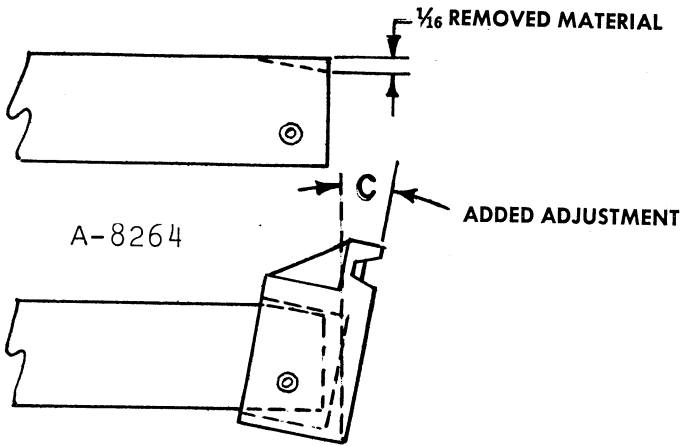

Figure 29
1. Added clearance at the end of the drive brace within the cable adjusting block. See Figure 29.